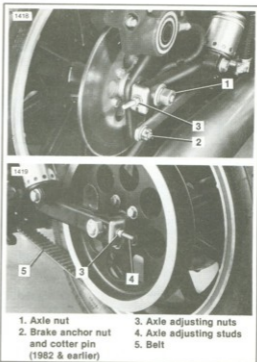

Figure 6-18. Secondary Belt Adjustment
1. See Figure 6-18. Loosen the axle nut (1). Remove the cotter pin and loosen the brake anchor nut (2). Turn adjusting nuts (3) as necessary to move axle and correctly adjust belt tension. Turn each adjuster nut (3) an equal number of turns to keep the wheel aligned. To move axle forward, loosen adjuster nuts an equal number of turns and tap lightly on ends of adjuster studs (4).